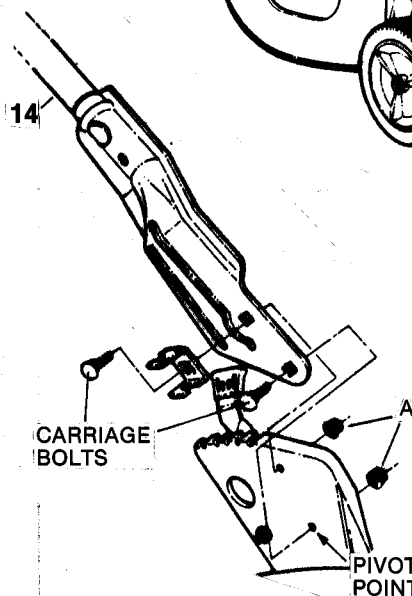

FIG. 20 -HEIGHT ADJUSTMENT
To raise or lower handle (14), loosen the adjusting locknuts (A) on both sides of handle shown in FIG. 20. Re-set handle to desired position and re-tighten the locknuts.